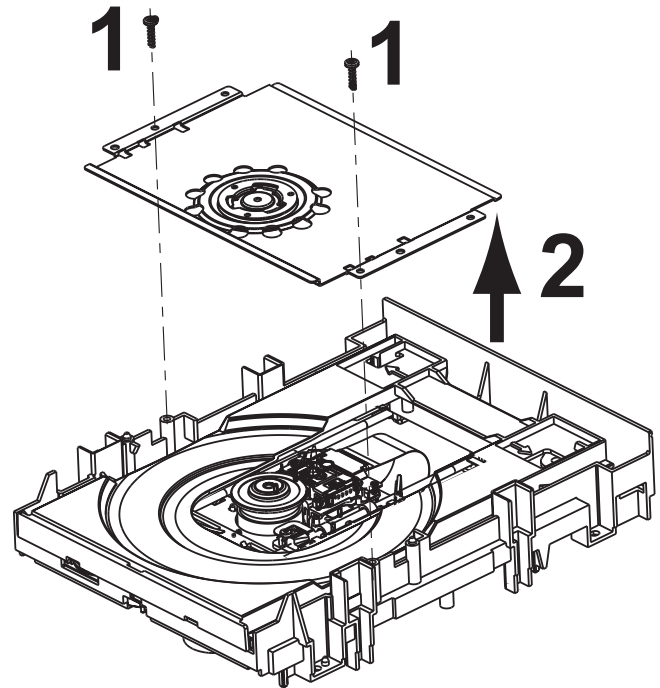

Figure 4-2 Remove Clamper Bridge
- Remove the clamper bridge assy, by releasing the two screws [1], see figure 4-2